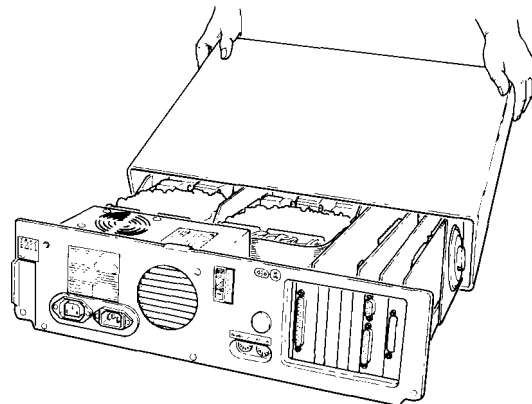

Figure 2.16. IBM PC Cover Installation
- Carefully place the cover in position (Figure 2.16).